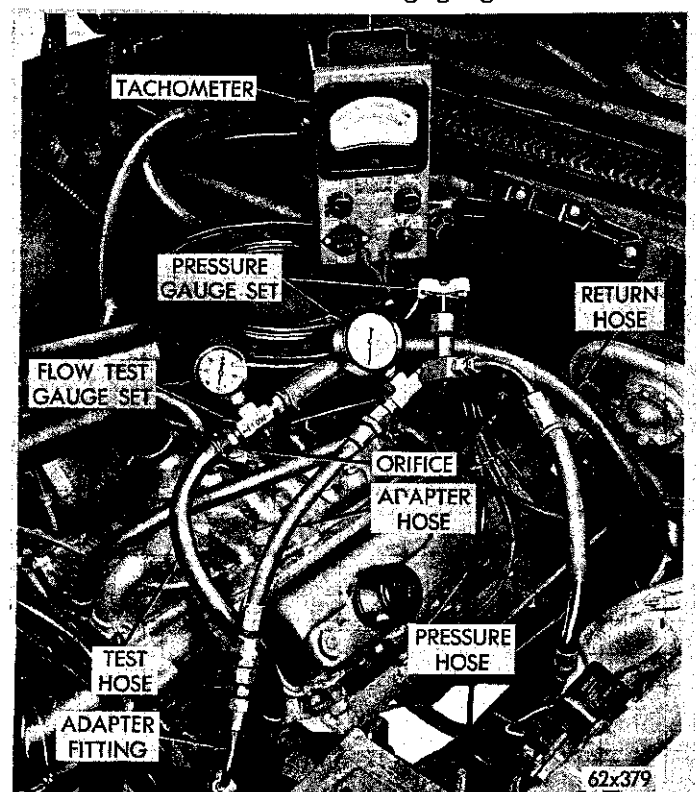

Fig. 3—Flow Test Connections (Typical)
(1) Inspect the pump belt tension. See "Cooling System" Group 7.
(2) Disconnect the pump pressure hose at the power steering pump and connect the test hose adapter tube and pressure gauge Tool C-3309B with the proper adapters between the power steering pump and the hose disconnected from the pump (Fig. 3).
3885 with the special hose between the power steering pump and the return hose disconnected from the pump (Fig. 3).